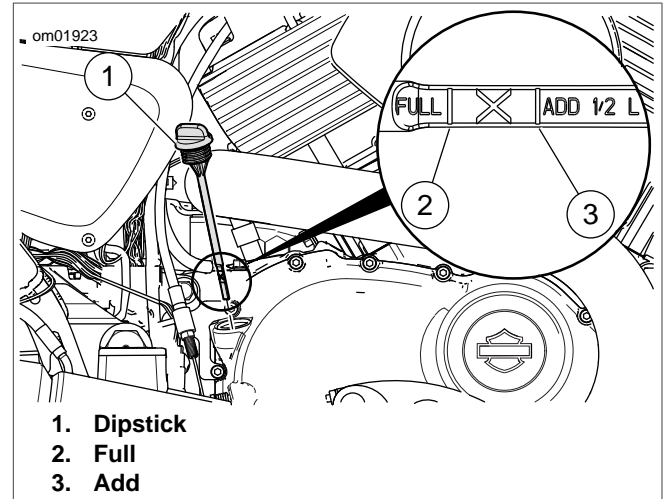

Figure 27. Engine Oil Level
2. See Figure 27. Remove dipstick (1) and wipe clean.
3. See Figure 27. Remove dipstick (1) and wipe clean.